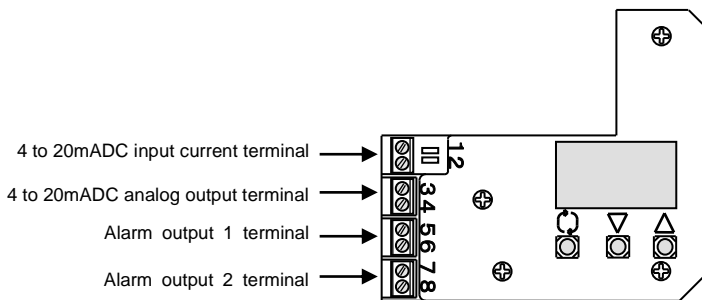

Fig. 10
- (1) Remove the positioner body cover.
- (2) Connect input current wiring from an adjusting meter (controller) and each output wiring following Fig 10\*1.